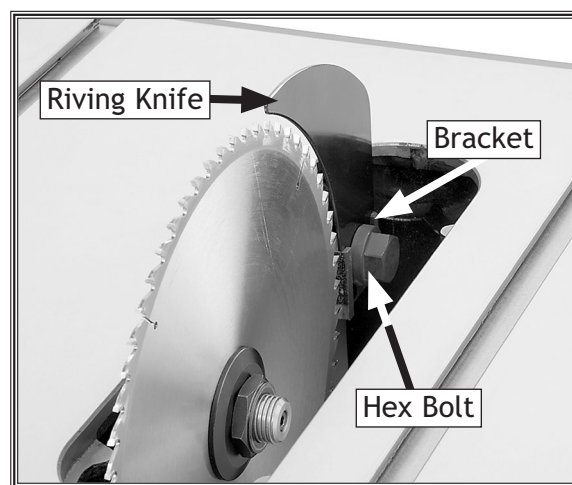

Figure 31. Riving knife installed.
- Loosen the hex bolt (**Figure 31**), insert the riving knife into the bracket slot, and tighten the hex bolt to secure the riving knife.